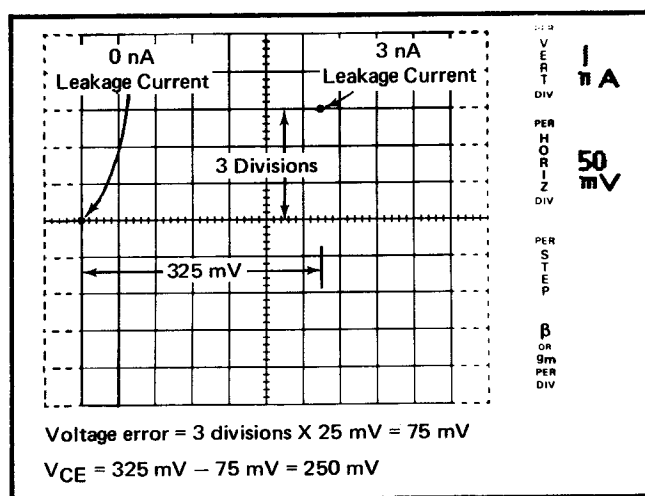

Fig. 2-21. Sample calculation of error in collector to emitter voltage incurred when measuring leakage of a transistor.
1. Measure the vertical deflection of the display in divisions (see Fig. 2-21).